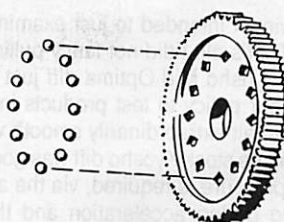
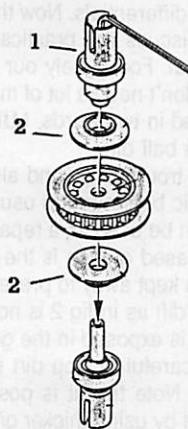

FIGURE 4
FIGURE 5
The operating principle of a ball diff is quite different to a planetary differential. The gear or pulley that takes the drive from the motor has a number of small (usually about 3mm) ball bearings inset. See figure 4. The balls are a loose fit in the web of the wheel and are free to rotate. These balls effectively take the place of the bevel pinions in the gear diff. Turning to figure 5 you will see a pair of metal plates (2) that are squashed against the gear wheel and bear on the ball bearings. These plates do the same job as the star wheels on the gear diff and are connected full time to the drive shafts and road wheels. During operation, the small balls are stationary (like the bevel pinions on the gear diff) as long as the car is travelling in a straight line. On cornering, the balls rotate and allow one road wheel to go faster than the other but still transmit power to both wheels. So far this is no different to the operation of the conventional gear diff. The clever part is that the pressure of the plates (2) on the balls can be adjusted to give varying amounts
Apart from regular cleaning, maintenance of the ball diff mainly involves inspecting the parts for wear and replacement of worn parts. In particular check that the gear teeth are not worn (flat topped not pointed teeth) and that the bearing plates (parts 2 in fig 5) are not grooved. The latter can be remedied with wet and dry type sandpaper used wet. Place a piece of, say 600 grade wet and dry over a dead flat and smooth surface such as glass (I use a small hand mirror) and move the plate over the paper in a circular motion. Change to progressively finer paper and finish up with at least 1200 grade for super smooth results. This process, together with treating your diff to new balls (mostly either 1/8 in. or 3mm diameter available from bearing supply houses) should keep it running like new.
Incidentally, some differentials use carriers to house the bearing plates. The carrier and the plate must be fixed together, usually with an adhesive, in which case it's important that epoxy is used and not super glue. Cyanoacrylates (super glues) may be strong but they are also brittle and break easily when subject to any vibration. This also applies to the joint between the metal bearing plates and the diff shafts (parts 1 and 2 in fig 5) in all Kyosho ball differentials. This tapered joint has been the undoing of many racers since it is not mentioned in the Kyosho instructions. The tapered seats must be epoxied together during assembly of the diff or else this joint will slip during acceleration.